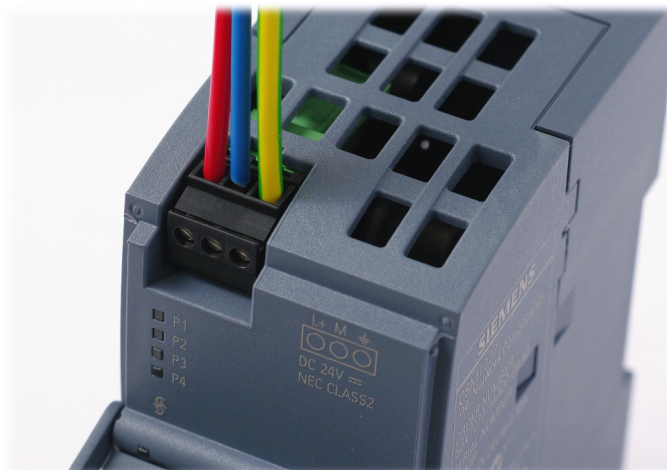

Figure 4-4 Connecting the power supply
4. Insert the terminal block into the sockets on the device. See << Link auf Bild 4.4>>